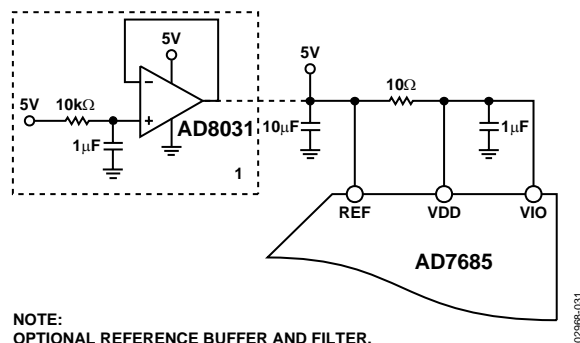

Figure 32. Example of Application Circuit
For simplified applications, the AD7685, with its low operating current, can be supplied directly using the reference circuit, as shown in Figure 32. The reference line can be driven by either:
- A reference buffer, such as the AD8031, that can also filter the system power supply, as shown in Figure 32.